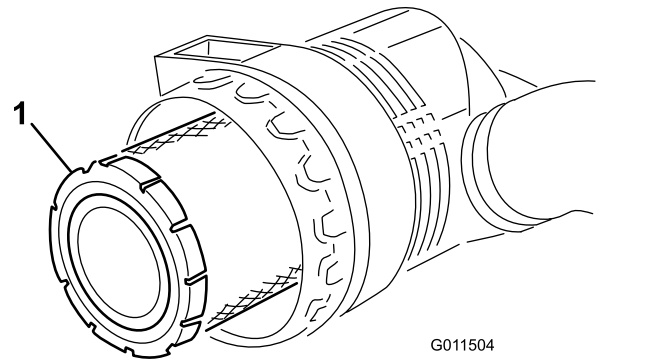

Figure 54
4. Remove and replace the primary filter (Figure 54).